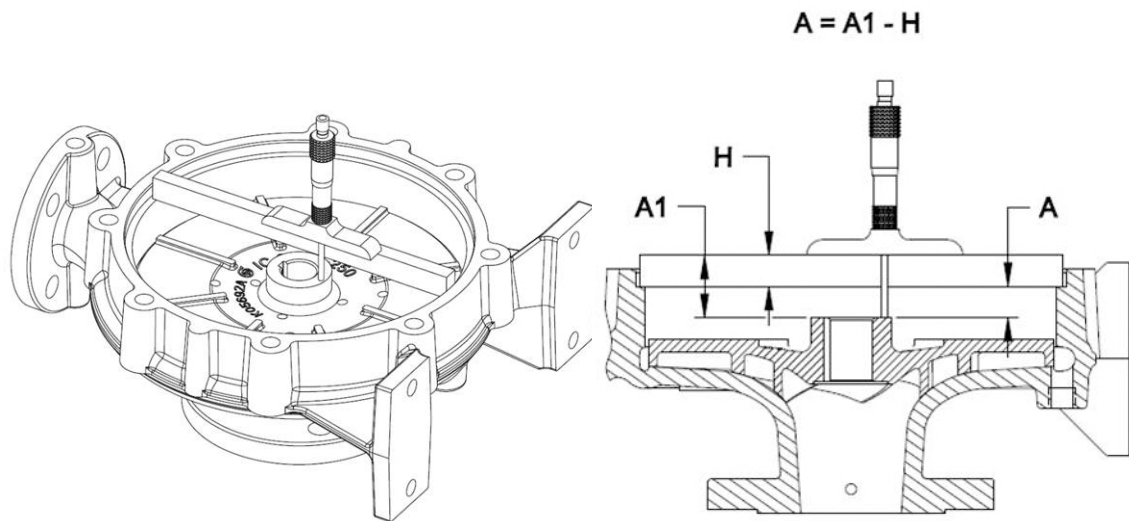
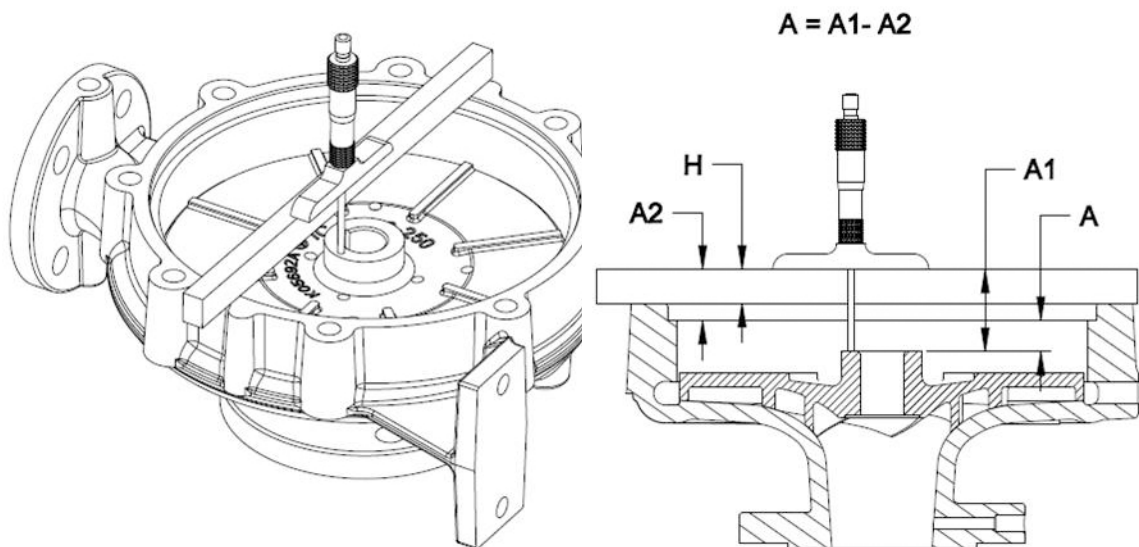

Figure 45: Goulds gauge bar method
Figure 46: Generic gauge bar method
If using ITT/Goulds K14153A gauge bar kit, see Figure 45: Goulds gauge bar method on page 86, If using a generic bar see Figure 46: Generic gauge bar method on page 86.
17. Measure from top of bar to impeller (230) back hub face as shown in Figure 45: Goulds gauge bar method on page 86 and record in A1 field.
18. Measure from top of bar to casing (102V) gasket surface as shown in Figure 45: Goulds gauge bar method on page 86 and recorded in A2 field.
19. Subtract A2 from A1 and record in the A field ($A = A1 - A2$) -- Refer to Figure 46: Generic gauge bar method on page 86.
20. Continue to Step 22 for casing cover (161) to sleeve (524) measurement -- Refer to Figure 46: Generic gauge bar method on page 86.
22. Subtract H from A1 to and record in A field ($A = A1 - H$) -- Refer to Figure 45: Goulds gauge bar method on page 86.